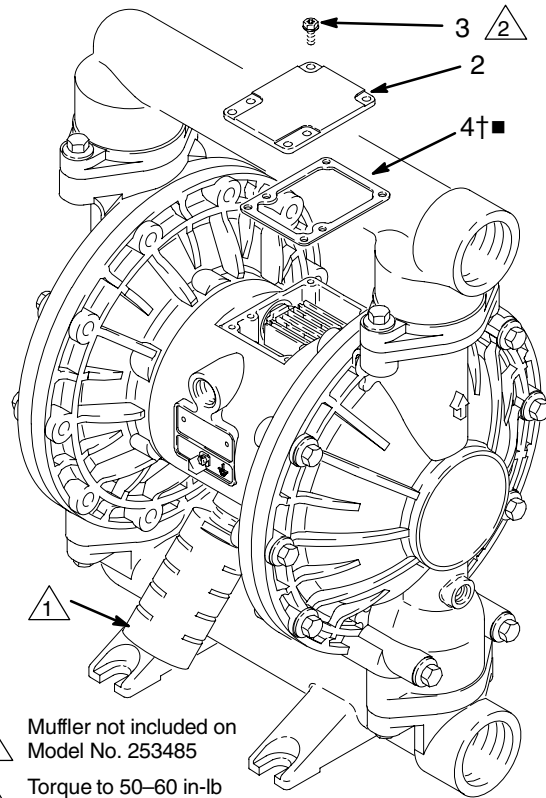

Fig. 6
2. With a Torx (T20) screwdriver or 7 mm (9/32 in.) socket wrench, remove the six screws (3), air valve cover (2), and gasket (4). See Fig. 6.
10. Align the valve gasket (4) and cover (2) with the six holes in the center housing (1). Secure with six screws (3), using a Torx (T20) screwdriver or 7 mm (9/32 in.) socket wrench. Torque to 50–60 in-lb (5.6–6.8 N•m). See Fig. 6.